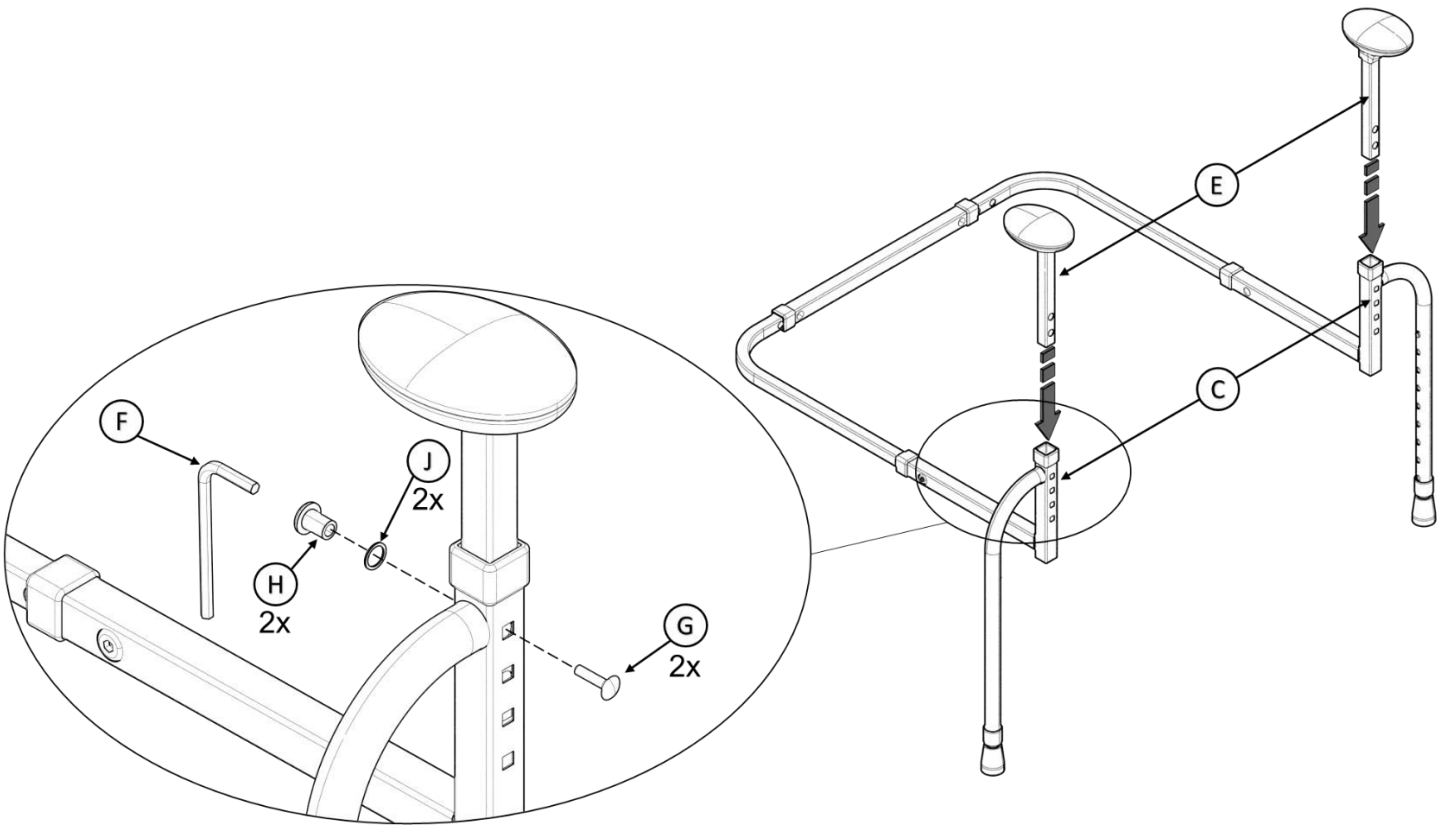

**FIGURE 4**
4. Insert **E** into **C** and align holes to desired handle height as shown in FIGURE 4. Insert **G**, **J** and **H** and secure with **F**.